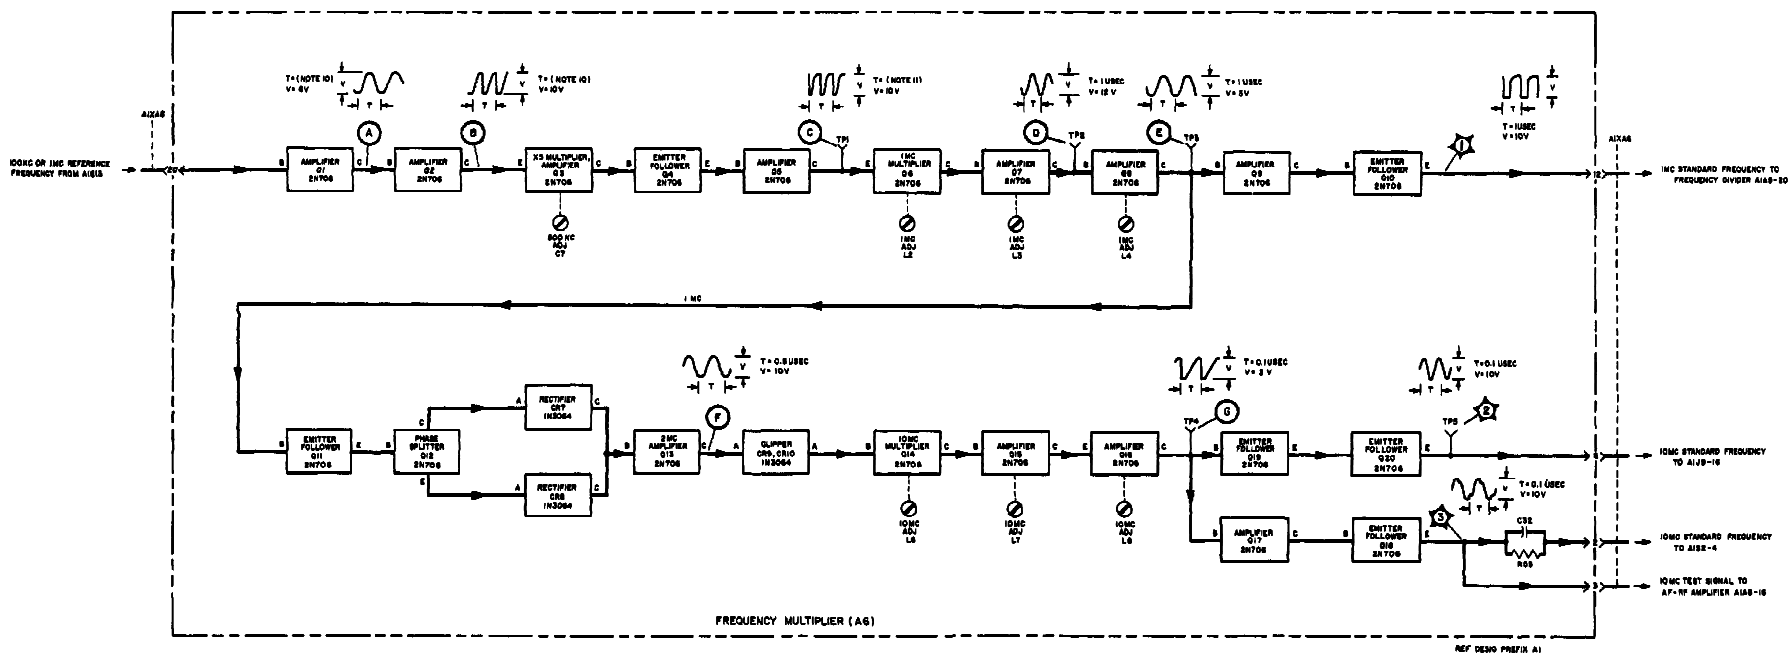

Figure 4-10. 10 Mc and 1 Mc Multiplier, Functional and Servicing Block Diagram
a. 10 MC AND 1 MC MULTIPLIER FUNCTIONAL DESCRIPTION. -- The 10 mc and 1 mc multiplier receives the 1-mc standard frequency produced by the radio frequency oscillator or an external 100-kc or 1-mc standard frequency. The multiplier amplifies, multiplies, and shapes these signals to produce the 1-me and 10-mc standard frequencies used throughout the counter. It is a separate assembly constructed entirely on printed circuit board A1A6. Figure 4-10 shows the functional relationship of all circuits in the multiplier and gives test points and waveforms as an aid in trouble shooting.
c. USEFUL ILLUSTRATIONS. -- Illustrations useful in maintaining this functional section are: figures 4-10, 5-42, and 5-66.